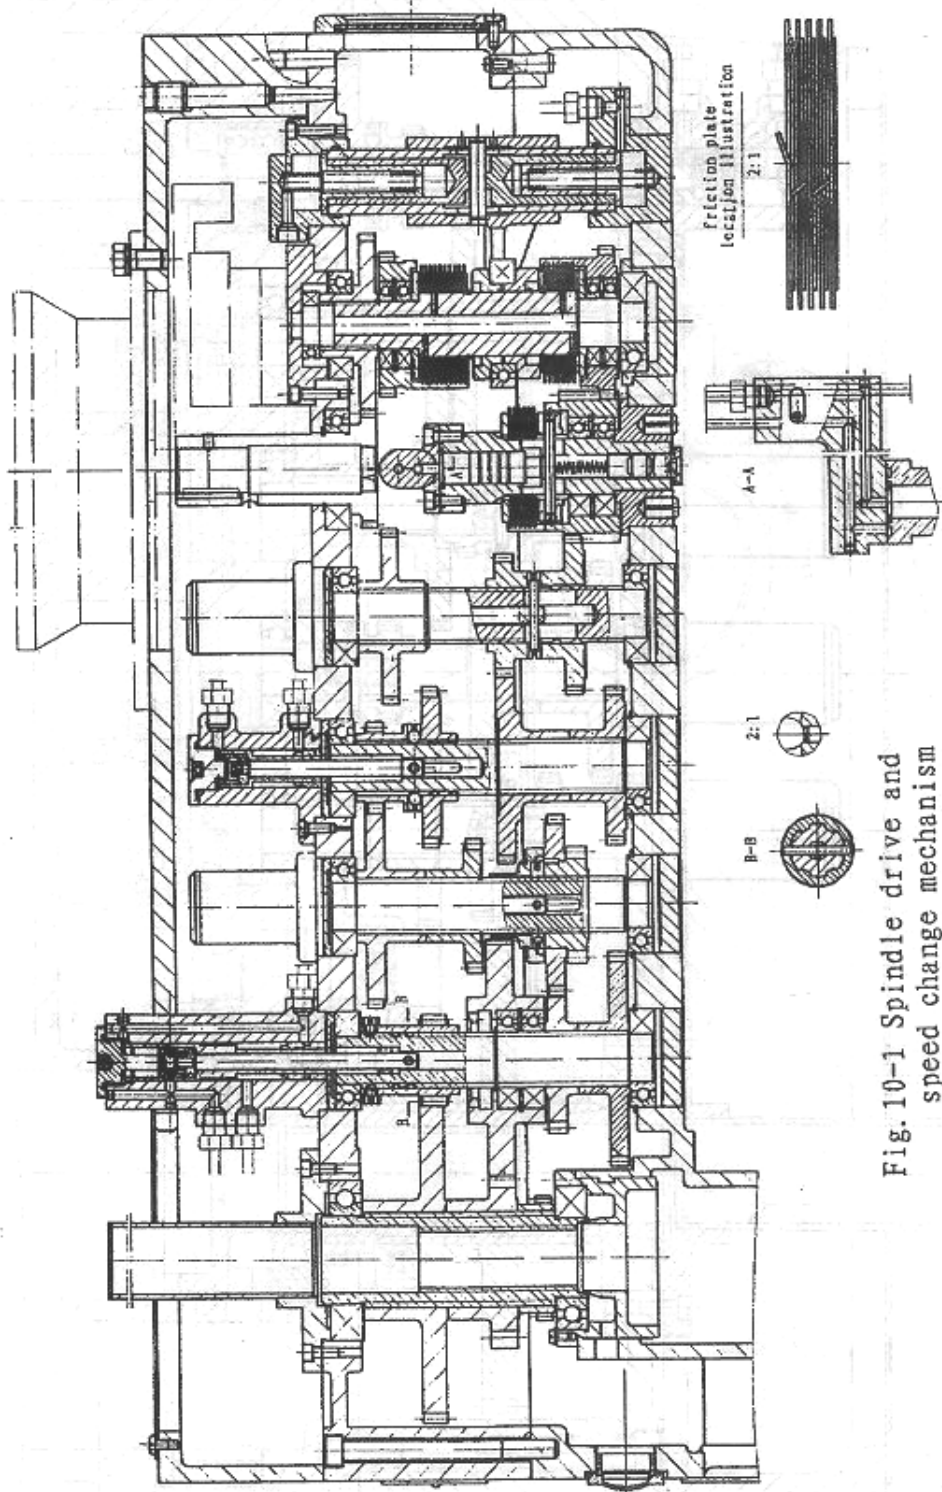

Fig. 10-1 Spindle drive and speed change mechanism
1、 Spindle speed change transmission mechanism (fig.10-1)